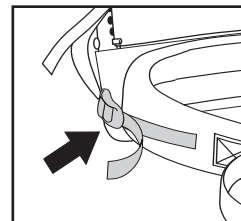

Figure 2L
F. OPTIONAL- Pull the belt stabilizers just snug (Figure 2L), if applicable. If overtightening them feels good, you might need to bend more curve into the frame in the lumbar region. Overtightening causes gaps between you and the belt. Belt stabilizers are best left loose for the first 15-30 minutes of hiking.)